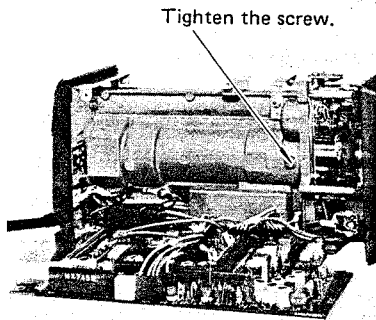

Fig. 3-15
- Secure the coil guide by tightening the screw which locks its position. (Fig. 3-15)